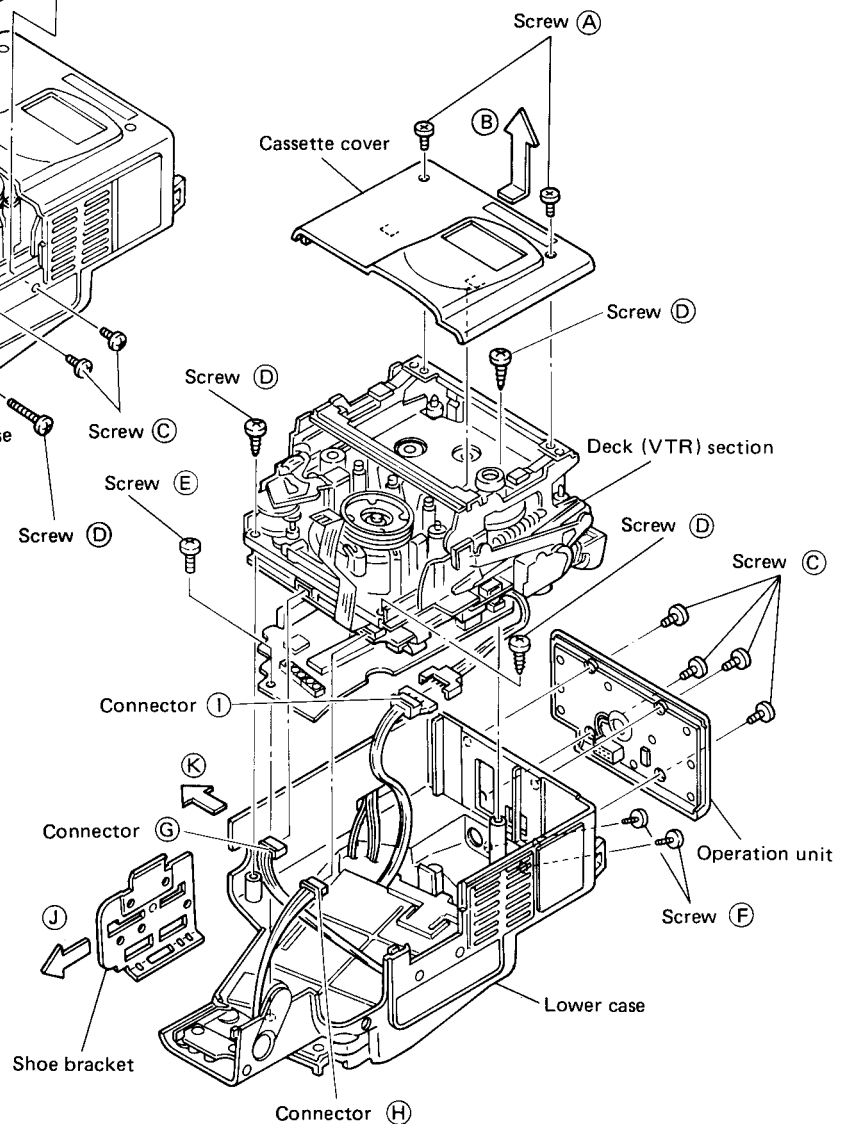

Fig. 1-1-4
1.1.4 Cassette cover and deck section (Fig. 1-1-4)
2. Remove four screws (C) securing the operation unit. At removing the operation unit, pay attention to the connectors connecting it with the deck section.
3. As indicated in Fig. 1-1-4, take out 3 screws (D), screw (E) and 2 screws (F). Disconnect connectors (G), (H) and (I). Remove the shoe bracket in the direction shown by arrow (J). The shoe bracket can be more easily removed by spreading the lower case in the direction shown by arrow (K).